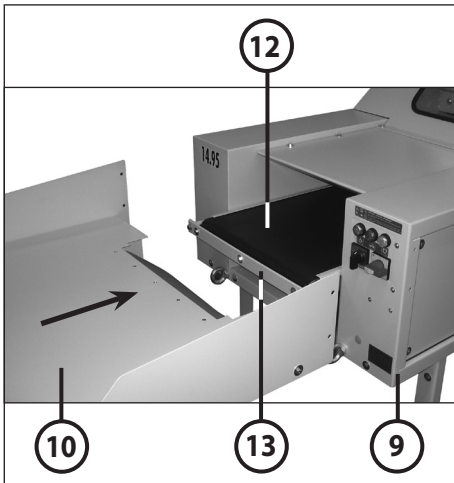

fig. 1
- 9 = housing (fig. 1, 2 and 4)
- 10 = table (fig. 1, 2, 4 and 5)
- 12 = conveyor belt (fig. 1 and 4)
- 13 = conveyor belt retainer (fig. 1)
MOUNTING THE TABLE (10) (fig. 1, 2, 3):
1. Remove the 3 screws from the housing front panel (9), as well as the 3 screws from the front of the conveyor belt retainer (13).
2. Set the table (10) onto the conveyor belt retainer (13), push it all the way back to the housing (9) and secure it to the housing front panel and the front of the conveyor belt retainer with the previously removed screws (fig. 1, 2 and 3).